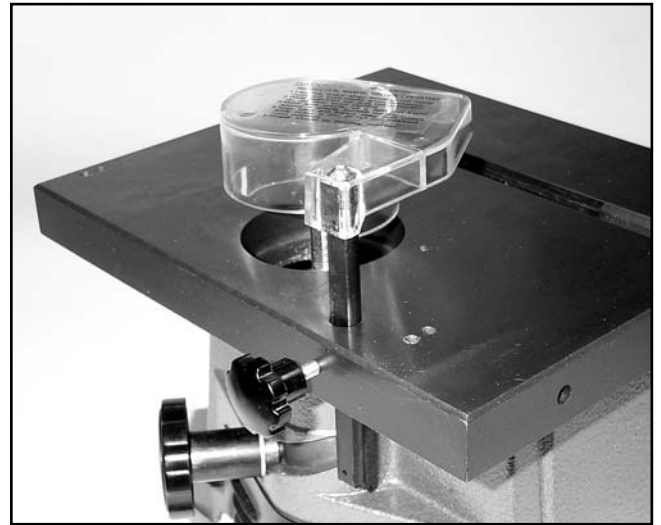

Figure 5. Guard installed.
3. Use knob (REF 14) from the parts bag to set the height of the Ring Guard. See **Figure 5**.